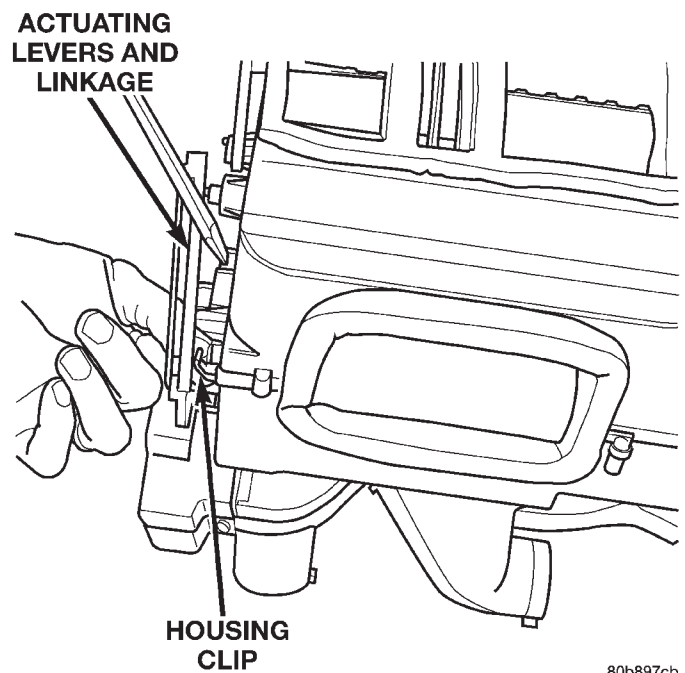

Fig. 21 HVAC Housing Clips
(7) Remove the 5 clips that secure the two housing halves to each other. There are 2 on either side at the center, and 1 located at the forward end of the mode door side of the case (Fig. 21).